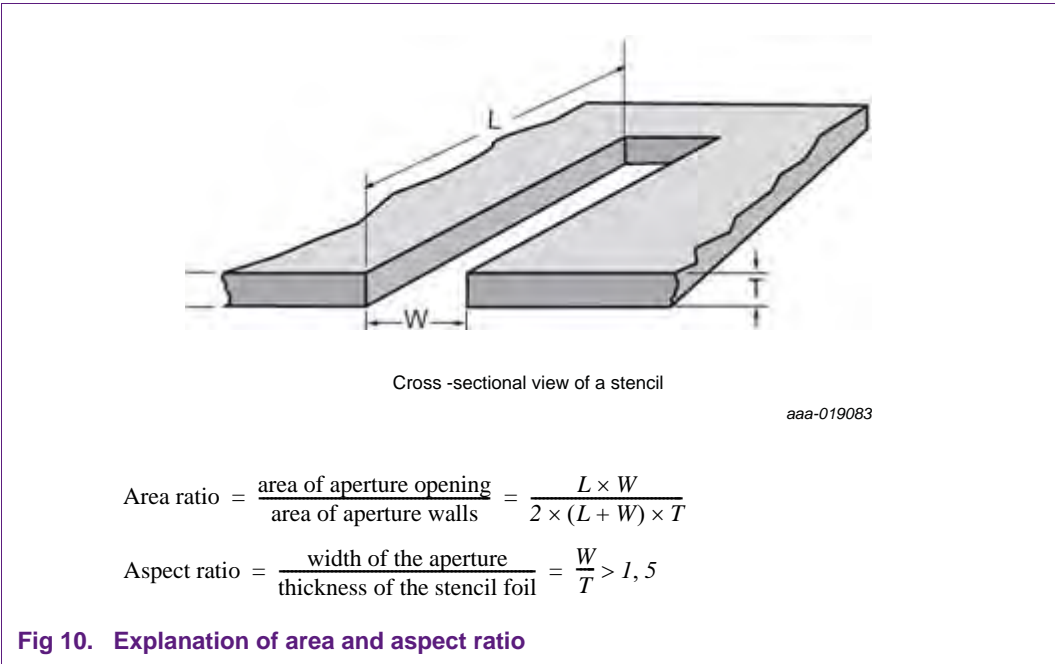

**Fig 9. Recommended stencil aperture for DSN1006U-2 (SOD995)**
For the DSN1006U-2 (SOD995) recommended NXP footprint (see Section 3.2.1, Figure 7), the optimum stencil aperture is shown in Figure 9.
- A stencil aperture dimension as shown in Figure 9 and Figure 13 is recommended for DSN1006U-2 (SOD995).